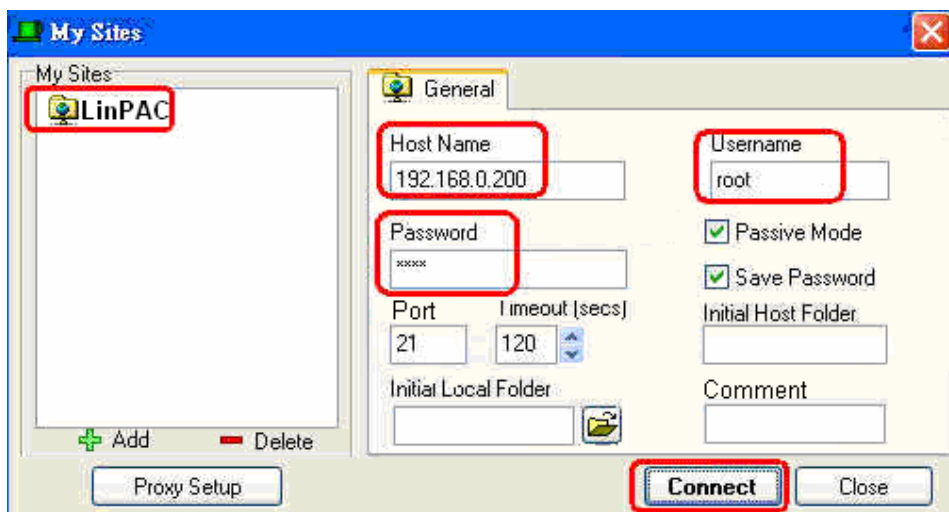

Fig.7-3
Step 1: Open a FTP application and create a new FTP connection. Enter the login details for the LP-9x21, including the Host name (or IP address), Username and Password. The default value for the **User_Name** is 'root' and the **Password** is 'icpdas'. Click the **“Connect”** button to connect to the ftp server on the LP-9x21. Refer to Fig.7-3 below for more details.